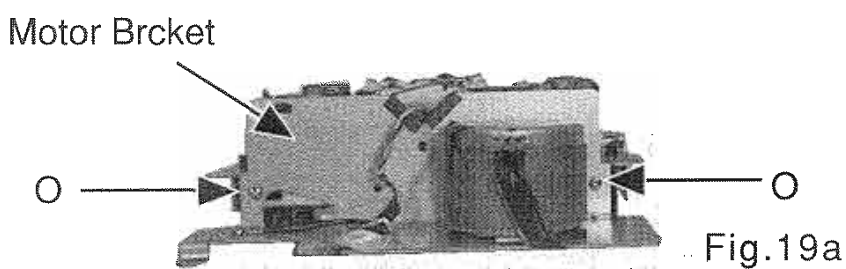

Fig.19a
- 2.Remove the 2screws 'O' holding the motor bracket(Fig.19a).